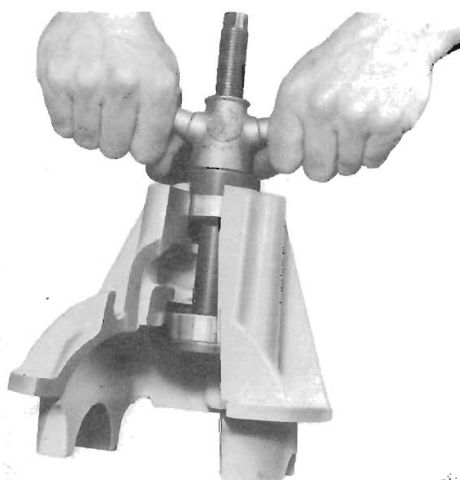

Fig. 36.
Locate the outer rings of the pinion bearings (7), (16) in the differential housing (13) and, using the special tools shown on Fig. 36, draw the rings into position. Omitting the shims (19), at this stage, lightly oil the head bearing (17) and press it on to the pinion (18).